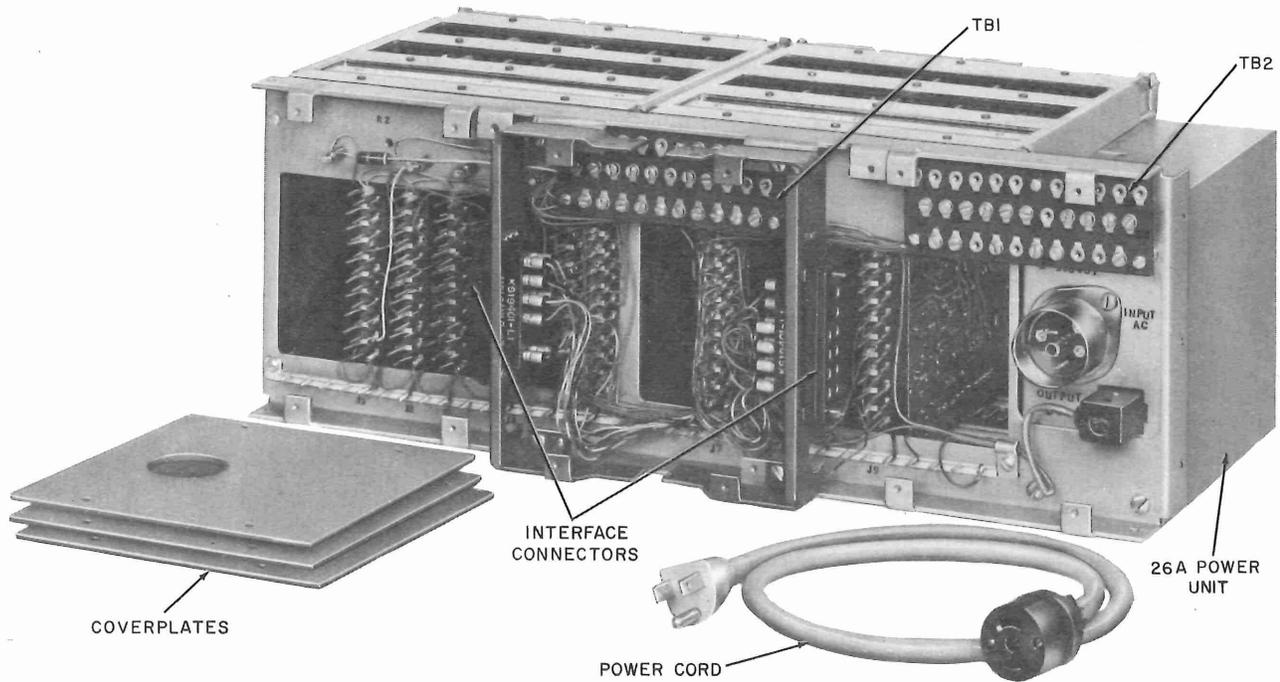

Fig. 9—Data Set 303-Type—Rear View
3.15 Location of the interface connectors and terminal blocks corresponds to those shown in Fig. 9. Options for DS 303-type will be found in Table B.
Note: See Fig. 9 for option terminal boards on DS 303-type.